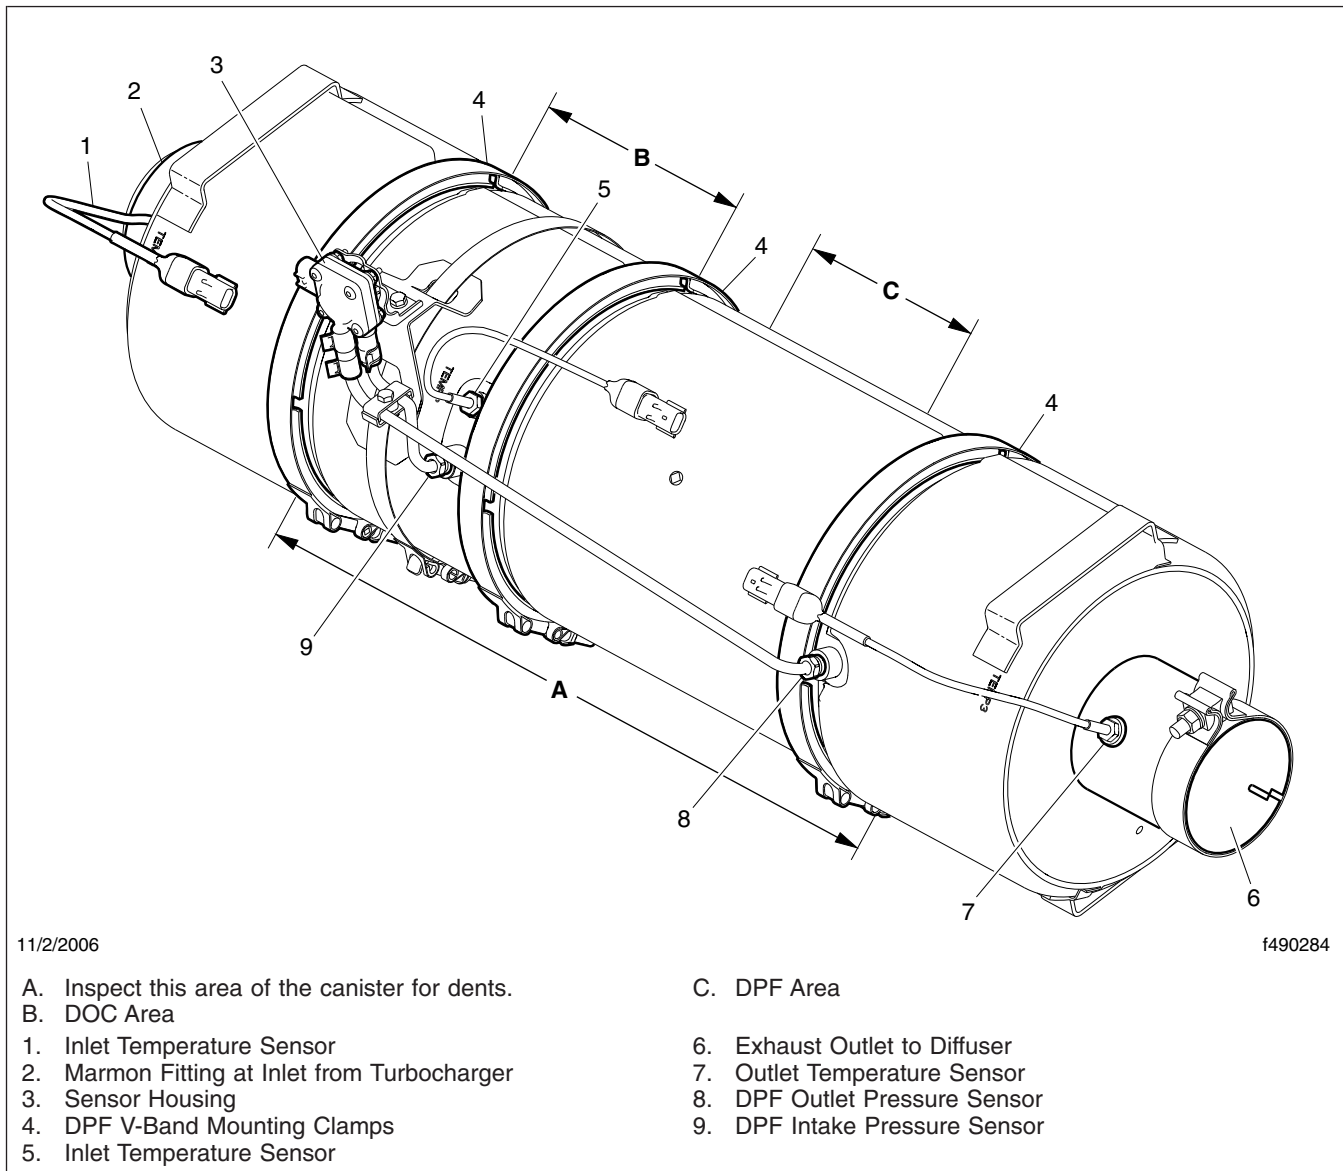

Fig. 2, Cummins Aftertreatment Device
IMPORTANT: The Environmental Protection Agency's 2007 regulations require lower exhaust emissions, thus requiring new exhaust system components. See Fig. 2. In particular the aftertreatment device (ATD), which is part of the aftertreatment system (ATS), requires special attention during regularly scheduled maintenance inspections. If any discrepancies are discovered, refer to the engine manufacturer's service literature for repair instructions.
7. Check the DPF exterior surface for dents or other damage. See Fig. 2, Item A. A dent over 3 inches (76 mm) in diameter and 1/4-inch (6-mm) deep could cause internal damage to the DPF, causing it to malfunction.